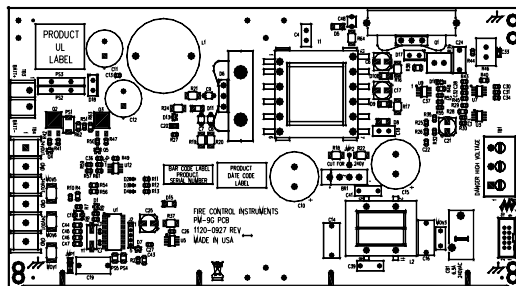

Figure 3.4.1 PM-9/PM-9G Sub-Assembly
The PM-9/PM-9G Power Supply sub-assemblies are used to provide the operating voltage to an INX or an INX CAB-B Transponder assembly comprised of an INI-VGX-FO or INI-VGX-UTP and up to four (4), AM-50 Series amplifier sub-assemblies. In addition, the PM-9/PM-9G is capable of maintaining and supervising batteries up to 55 A/H (with an external battery cabinet). The INX or the INX CAB-B cabinet accommodates batteries up to 12 A/H. (Batteries not furnished). Figure 3.4.1 illustrates the PM-9/PM-9G sub-assembly.